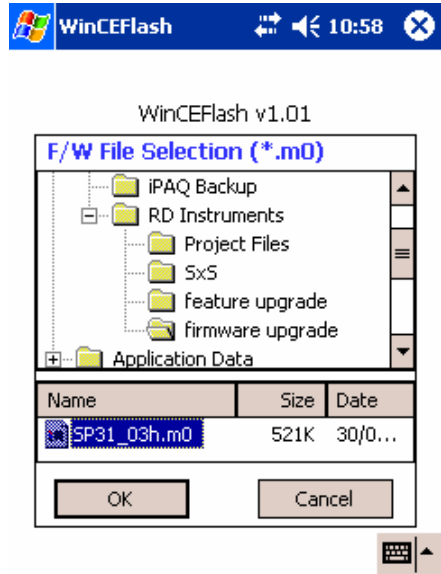

Figure 17. WinCEFlash Program
- i. Tap the *WinCEFlash* file. Navigate to the folder where the *.m0 file is located and tap to select the file (see Figure 17). Tap **OK**.